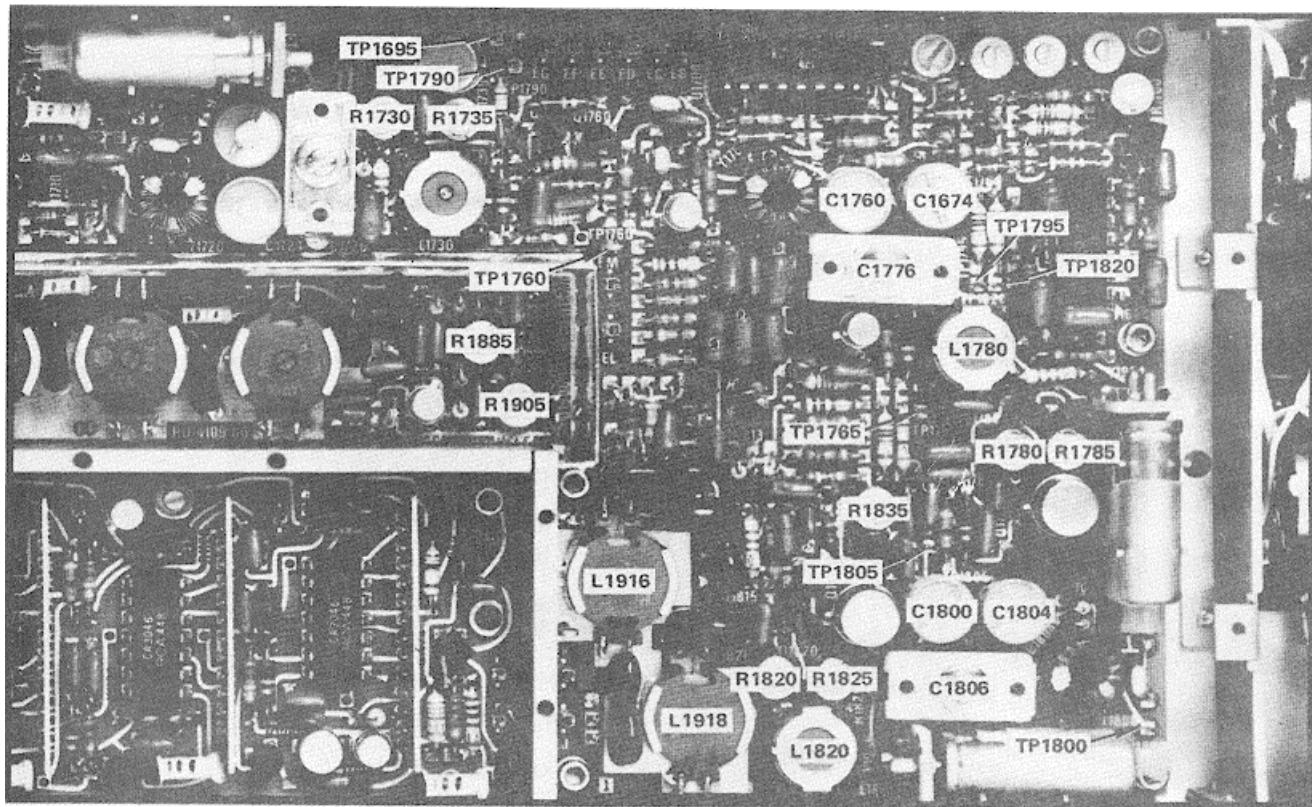

Figure 4-15.B. Test points and adjustments on the Variable Resolution board.
----3. Install 10 k Ω swamping resistors (Fig. across TP1720-TP1725, TP1760-TP1765, and TP TP1805 (Fig. 4-15).